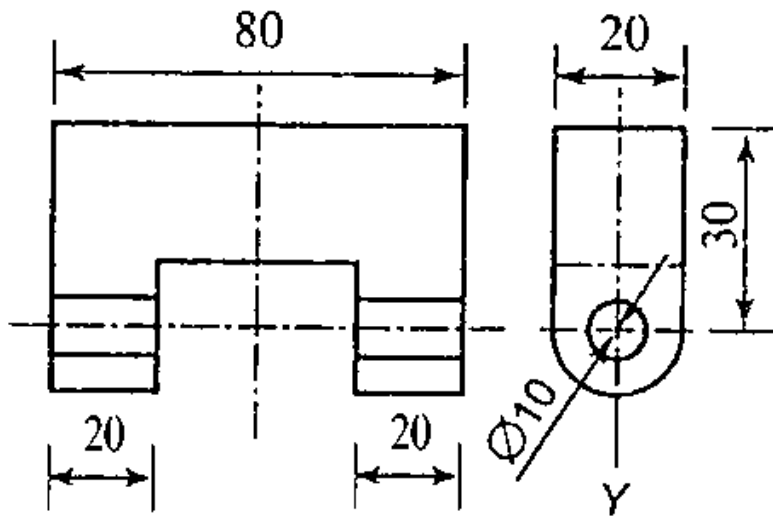

Fig. No. 3.a
- a) A forked support with 20 mm thick forks shown in fig no. 3.a. has two holes 30 mm below top surface such that their concentricity is within 0.2 mm and position is within 0.05 mm both in X and Y directions. The axis should be parallel to top surface within 0.1 mm. Show all above by the geometrical tolerances on given fig.3.a [6]